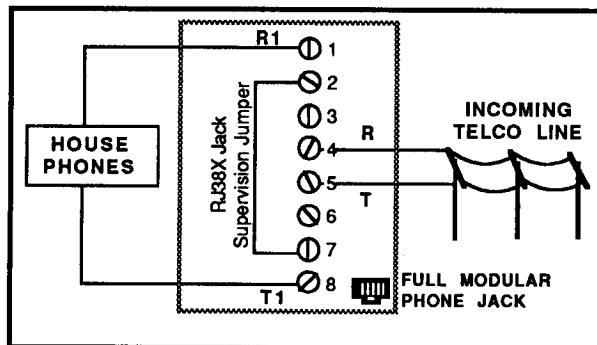

Figure 6: RJ38X WIRING
- 12.2 Location** - To prevent jamming of alarm and other signals, the RJ38X jack must be wired and located within the system so that normal phone use is temporarily interrupted while the communicator transmits data (see Figure 6). After installation, confirm that the communicator seizes the line, acquires dial tone, and reports correctly to the central station.